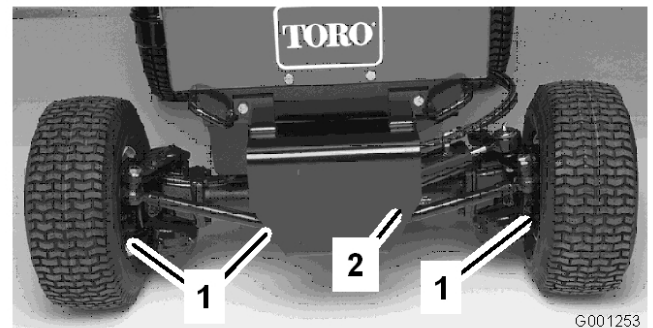

Figure 55
2. Remove nuts securing one tie rod ball joint to the mounting bracket on the axle and disconnect the ball joint from the axle (Figure 55).